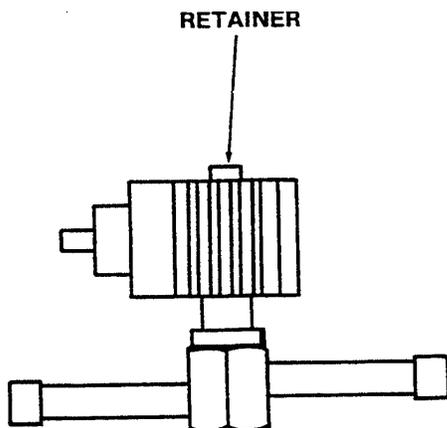

Figure 49. Solenoid Coil Removal
4. Remove the retainer holding the coil to the solenoid body and remove the coil (Figure 49).